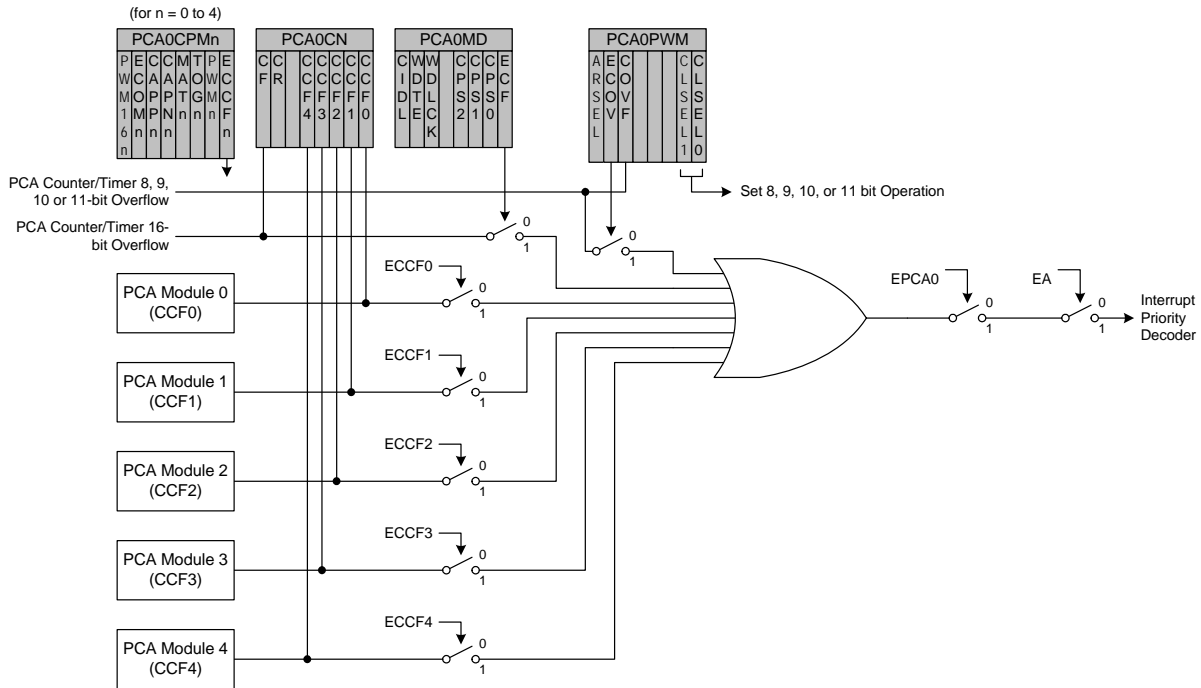

Figure 29.3. PCA Interrupt Block Diagram
Figure 29.3 shows a diagram of the PCA interrupt tree. There are five independent event flags that can be used to generate a PCA0 interrupt. They are: the main PCA counter overflow flag (CF), which is set upon a 16-bit overflow of the PCA0 counter, an intermediate overflow flag (COVF), which can be set on an overflow from the 8th, 9th, 10th, or 11th bit of the PCA0 counter, and the individual flags for each PCA channel (CCF0, CCF1, CCF2, CCF3, and CCF4), which are set according to the operation mode of that module. These event flags are always set when the trigger condition occurs. Each of these flags can be individually selected to generate a PCA0 interrupt, using the corresponding interrupt enable flag (ECF for CF, ECOV for COVF, and ECCFn for each CCFn). PCA0 interrupts must be globally enabled before any individual interrupt sources are recognized by the processor. PCA0 interrupts are globally enabled by setting the EA bit and the EPCA0 bit to logic 1.